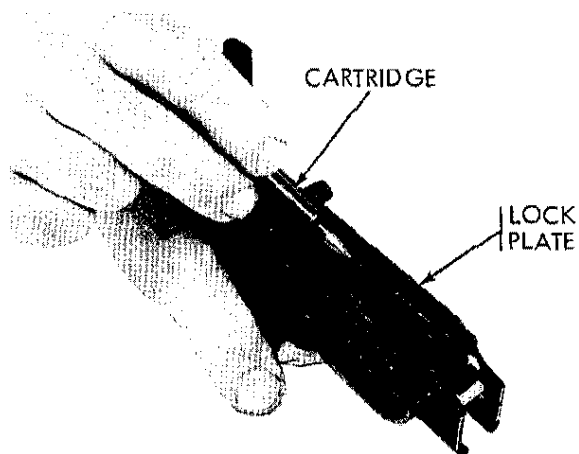
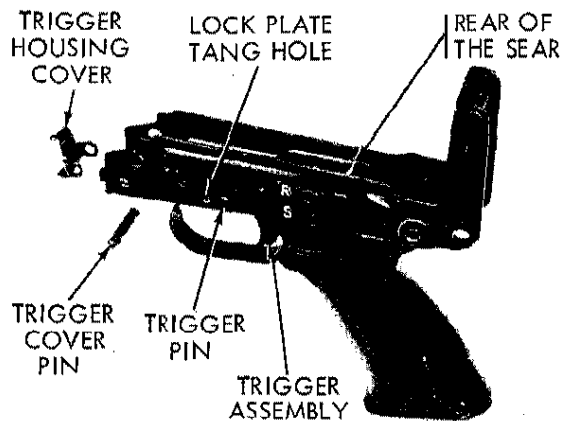
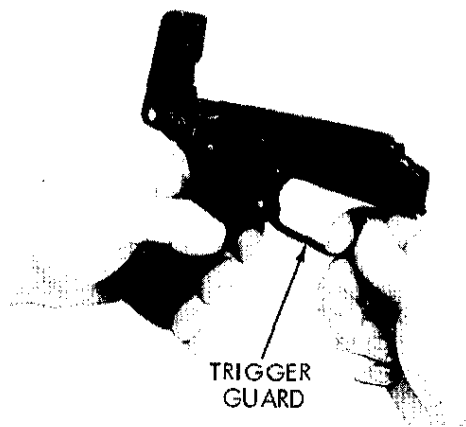

FIGURE 19. PUSHING LOCK PLATE FORWARD
FIGURE 20. REMOVE TRIGGER AND TRIGGER HOUSING COVER
FIGURE 21. REMOVING TRIGGER GUARD
- (1) Hold the trigger housing group in the vertical position. Insert the point of a cartridge into the hole that the lock plate tang is engaged in and push the lock plate forward as shown in figure 19. The lock plate must remain forward during disassembly of the trigger housing group so that the trigger pins can be removed.
- (2) Push out the trigger pin and the trigger housing cover pin (fig. 20) and remove the trigger housing cover (fig. 20). Remove the trigger by pushing down on the rear of the sear and pushing up on the trigger assembly.
- (3) Remove the lock plate by grasping the extended front edge and remove.
- (4) Remove the trigger guard by pushing down on the front of the guard until it unlatches (fig. 21). Remove the trigger guard from rear notch.
(1) Place the lock plate in the left side of the trigger housing group, as shown in figure 19, insuring that the lock plate is held in position by the two lock plate guide pins. The lock plate must remain forward during assembly of the trigger housing group.
(2) Depressing the rear of the sear, insert the trigger from the the top of the trigger housing.
(3) Replace the trigger pin.
(4) Replace the trigger housing cover (fig. 20) and insert the trigger housing cover pin.
(5) Align the trigger pins, and push the extending edge of the lock plate to the rear. The front edge of the lock plate should be flush with the forward edge of the trigger housing, and the lock plate tang should be seated in the lock plate tang hole (fig. 20).
(6) Replace the trigger guard (fig. 21) by engaging it in the notches provided.
(1) Replace the bolt in the bolt carrier with the ejector groove in the bolt facing toward the cam track in the bolt carrier.
(2) Insert the cam pin thru the cam track and into the cam pin hole in the bolt. The flat side of the cam pin guide lug must be in line with the lower side of the bolt carrier, as shown in figure 20.